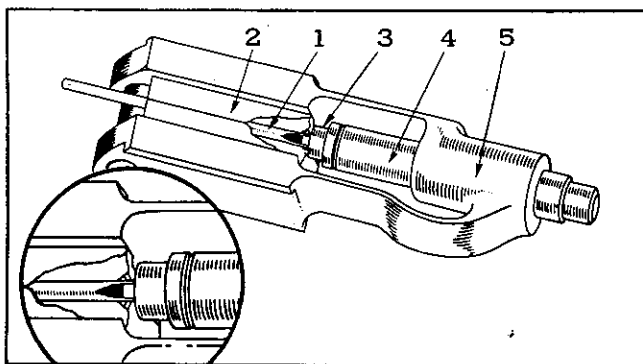

Fig. 12—Placing Tubing in Die Block Preparatory to Flaring.
Operation—Refer to Figs. 12, 13 and 14 illustrating the various consecutive steps in flaring a tube, which is done as follows:
- (c) Select proper die block. Die blocks are split in half with machined holes so arranged to accommodate 4 sizes of tubing in one block— $\frac{3}{16}$ ", $\frac{1}{4}$ ", $\frac{5}{16}$ ", and $\frac{3}{8}$ " O.D. tubing. Place tubing (1) in half of die block (2) in the space corresponding to size to be flared as shown in Fig. 12. Allow approximately $\frac{1}{4}$ " of tubing to project beyond countersunk end of die block. Use a lead or soft faced hammer, tap tubing in place removing any kinks or bends. Place other half of die block around tubing and tap firmly together. Avoid the use of an ordinary hard faced hammer when tapping tubing in place or die block together.
- (a) Remove punch ram (4) from tool (5).
- (b) Place die blocks (2) with tubing (1) into body of tool (5) and tap in place as shown in Fig. 12.
- (c) Place die blocks with tubing into body of tool and tap in place as shown in Fig. 12.